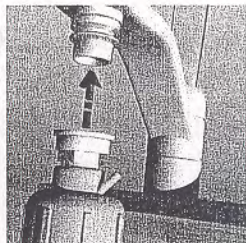

Fig. 2
Step 3: Remove and discard the protective cap. While holding down the white lock-ring on the unit, place the top over the end of the new aerator. Release the lock-ring. The unit will clamp into place. See Fig. 2. A slight downward tug on the entire assembly will confirm the connection.